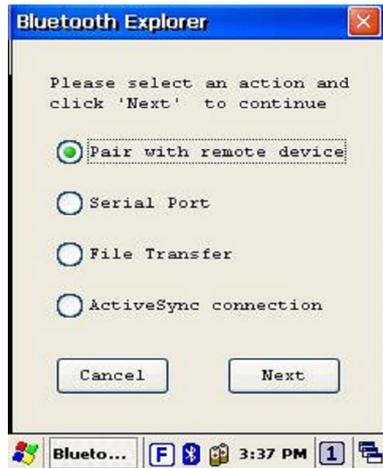

Figure 3-20 Bluetooth Explorer
- Bluetooth has four functions to choose like *Figure 3-20*.